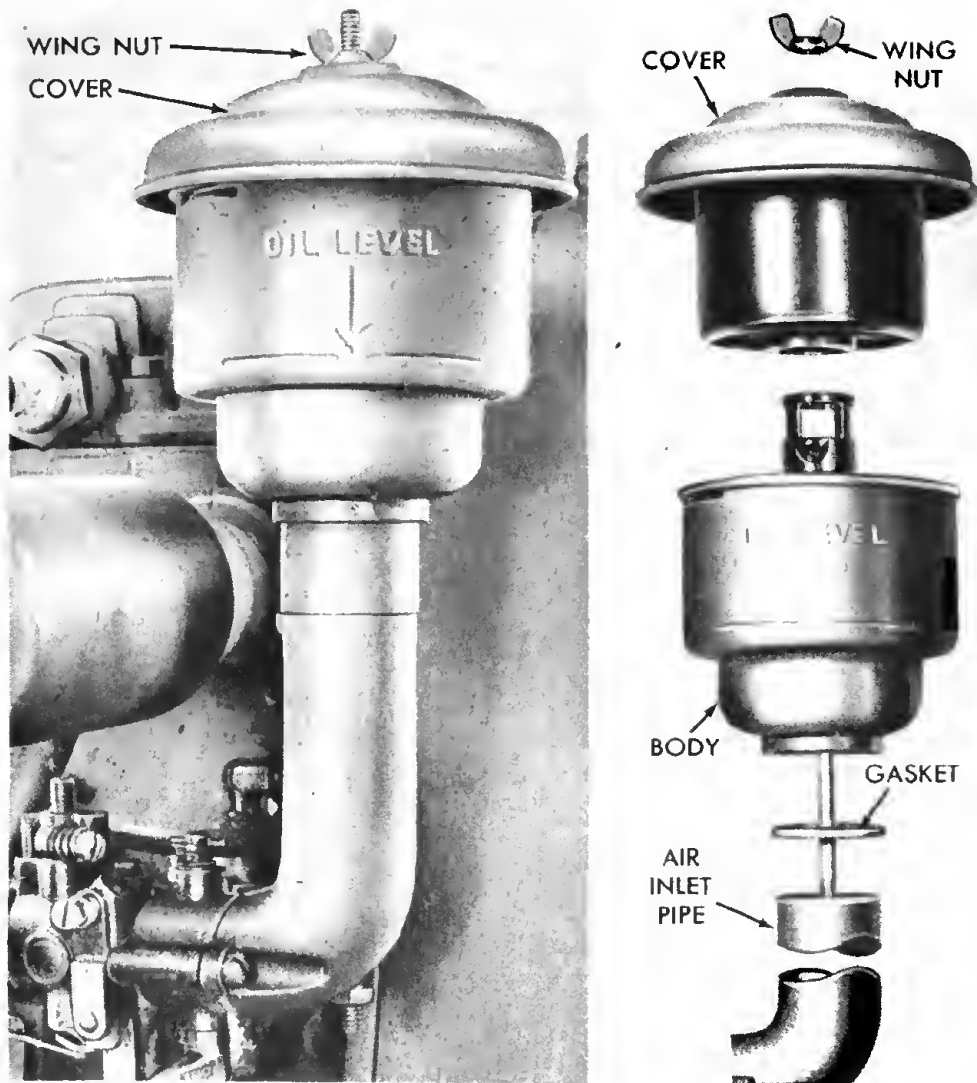

Figure 19—Carburetor Air Cleaner
c. **Carburetor Air Cleaner.** (See figure 19.)—Fill to level indicated on inside of cleaner, using engine oil (O.E.).
(1) Removal.
(2) Cleaning.